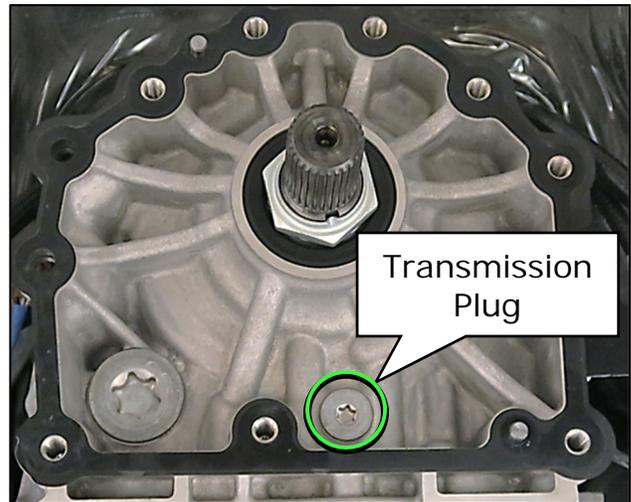

Figure 11
13. Remove the Transmission Plug shown in Figure 11.